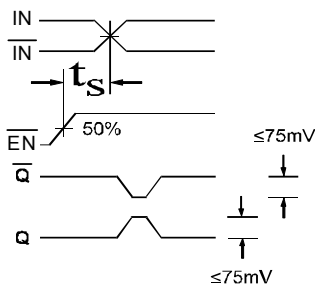

Figure 1. Setup Time
- The setup time is the minimum time that \overline{EN} must be asserted prior to the next transition of IN/ \overline{IN} to prevent an output response greater than $\pm 75mV$ to that IN/ \overline{IN} transition (see Figure 1).